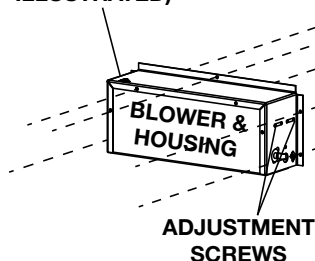

Fig. 5-2
3. Install the blower and housing as shown (**Fig. 5-2**) using 5 screws (supplied).